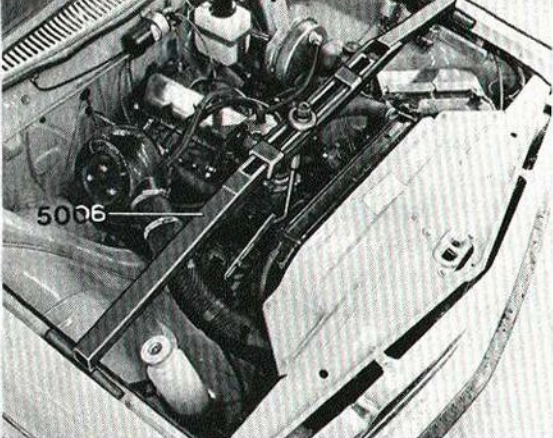

Fig. 2-20. Lifting tool 5006
1. Place the lifting tool 5006 shown in Fig. 2-20 and hook the hook round the alternator tensioning bar next to the engine block. Raise the front end of the engine until there is no weight on the engine mountings. Remove the oil dipstick.